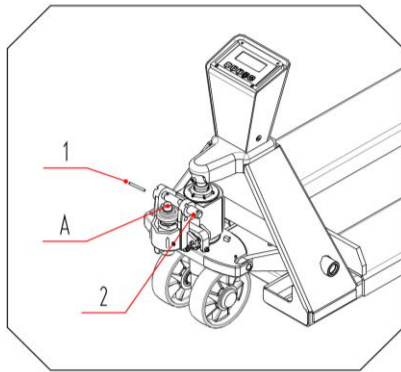

Fig. 1
2.1.1 Shown as Fig.1, remove elastic pin 1 from pin shaft 2, then pull out the pin shaft 2.